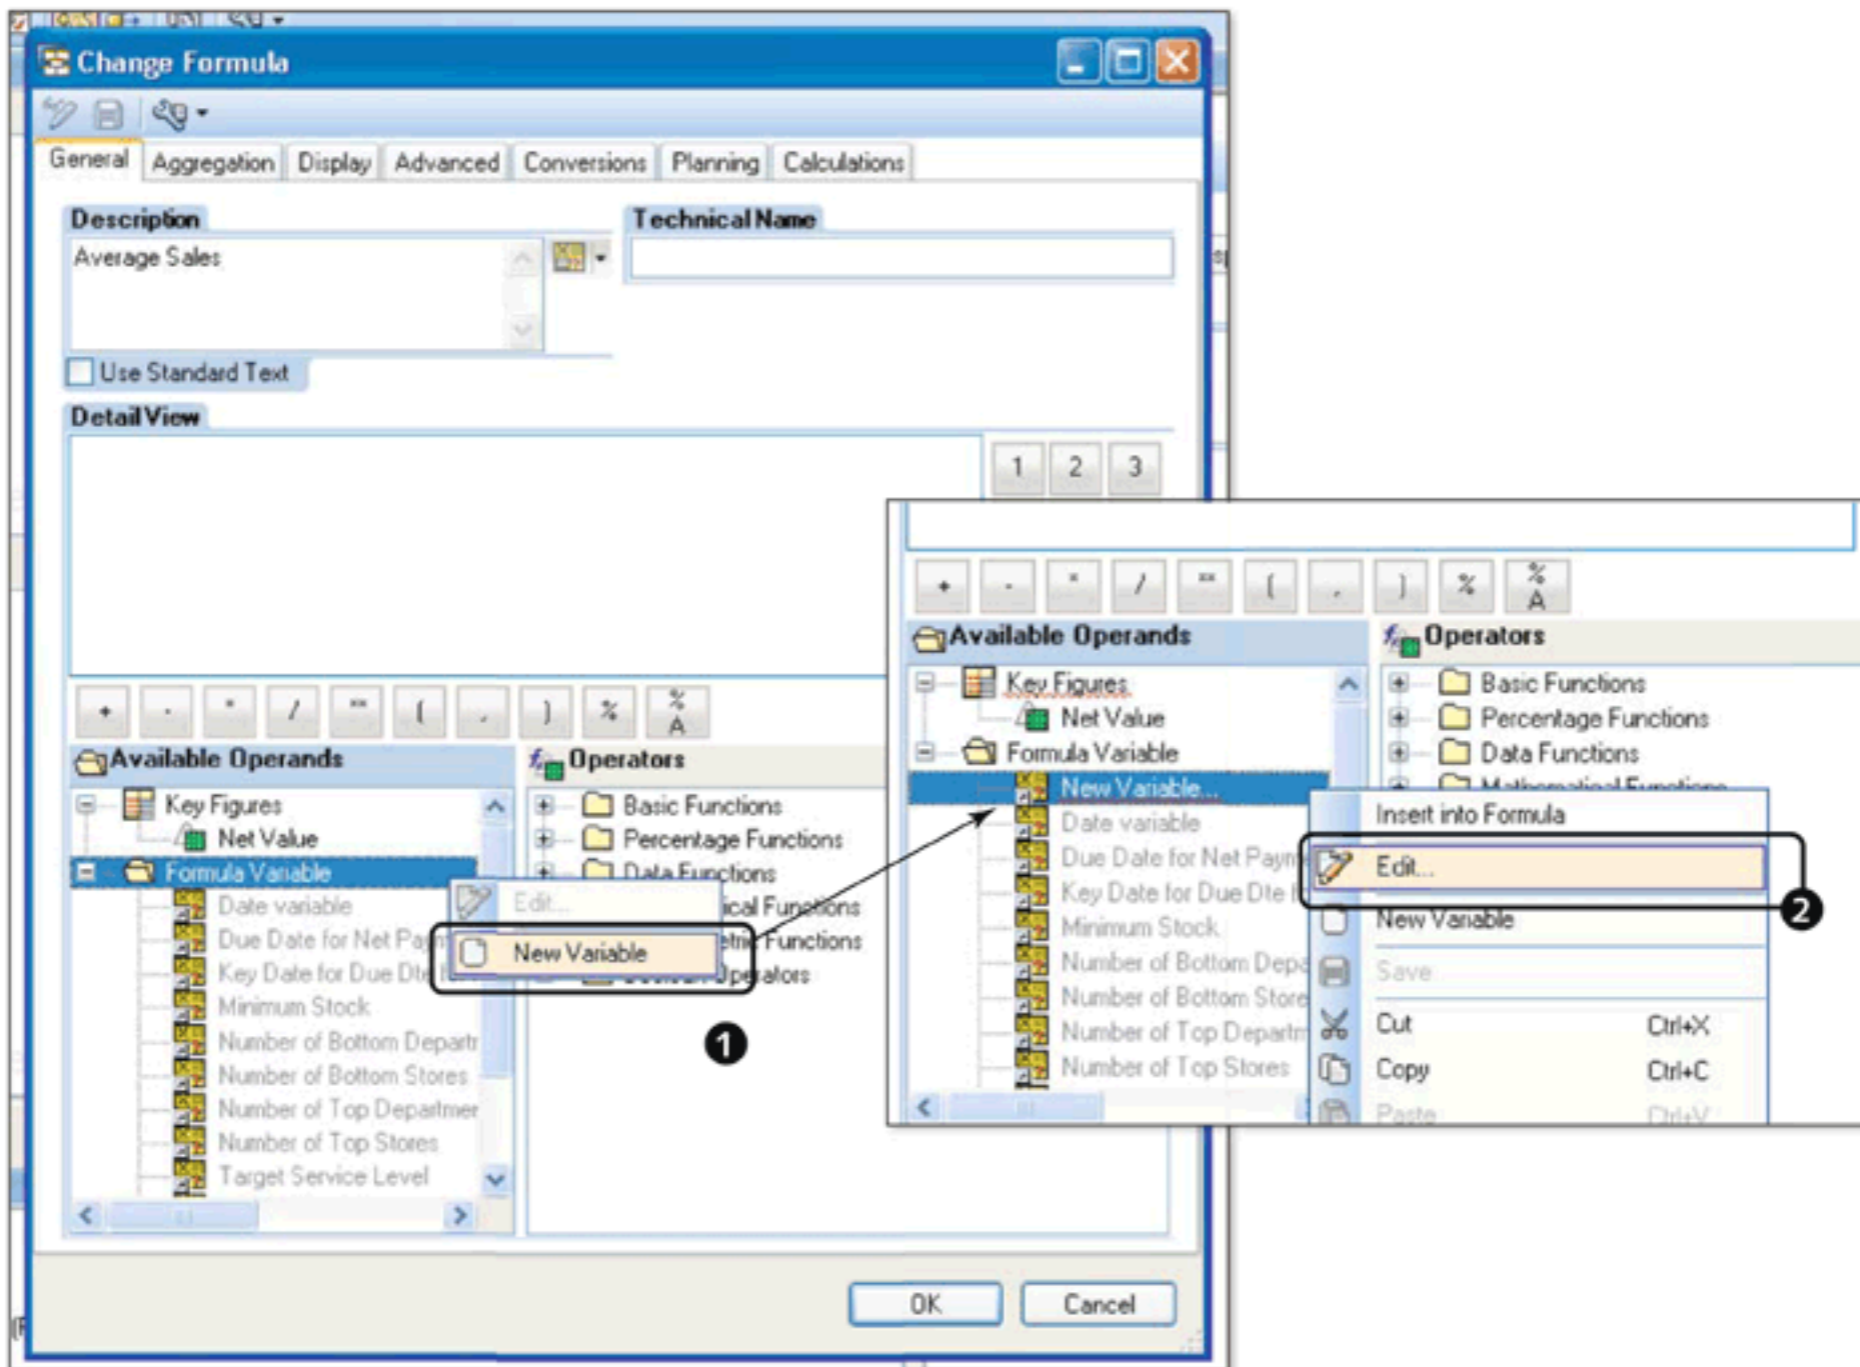

Figure 9.34 Accessing the Variable Editor from the Formula Dialog
To create a formula variable, you can access the Variable Editor from the formula screen while defining a query (see Figure 9.34). You can see a folder for formula variables under the AVAILABLE OPERANDS section of the formula editor. Select NEW VARIABLE from the context menu to create a new formula variable (1). A new variable is created in the folder. To define this variable, select EDIT from the context menu of the new variable (2).